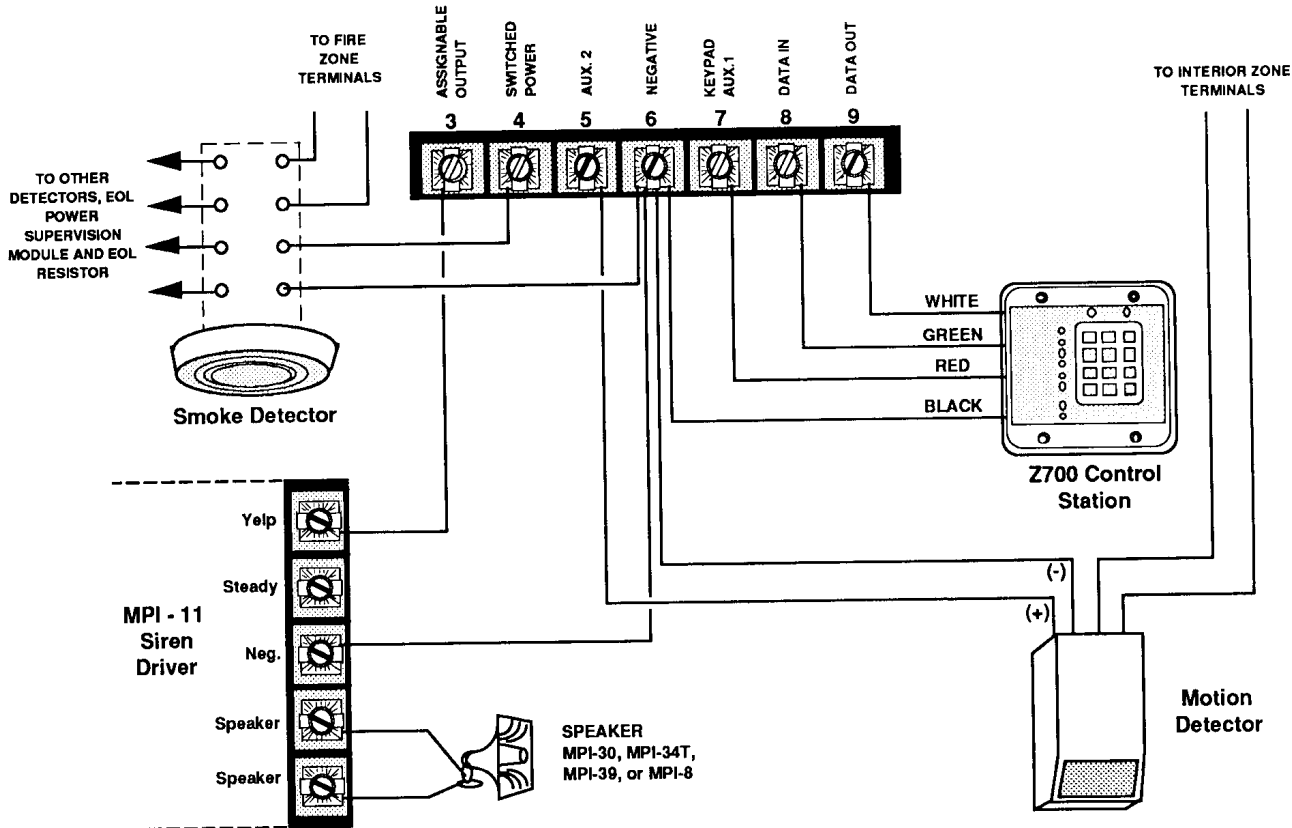

FIGURE 10 +12VDC CONTROL OUTPUTS †
Provides (+)12volts DC power for smoke detectors (see *ff* note on page i) and other devices that require momentary power interruption to reset. The power from this output can be momentarily interrupted (to reset smoke detectors, glass breakage detectors, shock sensors, etc.) by pressing the "7" key and holding for three seconds. Each time the control does an automatic 24 hour test, power from this output will be removed for 5 seconds. For this reason, Switched Power should not be used to power any device that will trigger an alarm upon interruption and restoral of power. This output is fused at 2.5 amperes by fuse F2 which is also used to fuse the Keypad Power/Auxiliary 1 output (terminal 7). Do not exceed the current drain limitations as indicated in Table 10, page 42. See Figure 10 for a hook-up example.
Used to provide (+)12 volts DC power for motion detectors and other devices requiring uninterruptable power. This output is protected by a 2.5 ampere fuse (F1) which is also used to fuse the Assignable Output (terminal 3). Do not exceed the current drain limitations as indicated in Table 10, page 42. See Figure 10 for a hook-up example.
Used to supply (+)12 volts DC power for control stations. This output is fused at 2.5 amperes by fuse F2 which is also used to fuse the Switched Power output (terminal 4). This output may also be used to supply auxiliary power for motion detectors and other devices provided the total current draw does not exceed the limits as set by Table 10, page 42. See Figure 10 for a hook-up example.
Assignable through programming (Function 256) to provide a (+) 12volt DC output upon any or all designated alarm conditions. If this output is not used for output upon alarms, it may be assigned to any ONE of the following other conditions: Switched Power reset (key 7)/24 hour automatic tests, access activation, supervisory/trouble conditions, or entrance pre-alarms and chime (key 6). If used to provide output upon alarms, it then must be defined as to the type of alarm condition(s) that will activate this output. This may include Burglar, Auxiliary "A", Auxiliary "B", or Auxiliary "C" alarms (or any combination) as selected through programming Functions 257-260. Sirens, bells, or other output devices may be connected directly to the Assignable Output (terminal 3) of the control provided they do not exceed the current drain limitations as indicated in Table 10, page 42. It may be desired to use this output for non-alarm conditions when using the optional Z729 Siren Driver/Output Expander. This output is protected by a 2.5 ampere fuse (F1) which is also used to fuse the Auxiliary 2 output (terminal 5). See Figure 10, page 10 for a hook-up example.